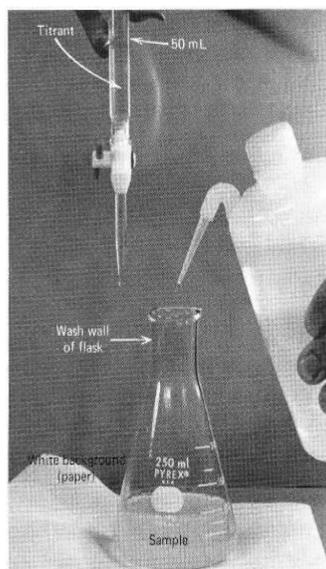
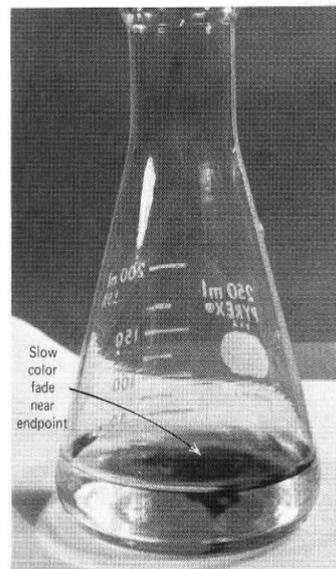

Figure T.16j Place a white background beneath the receiving flask and wash the wall of the receiving flask periodically during the titration.
Figure T.16k A slow color fade of the indicator occurs near the endpoint in the titration.
4. **Addition of Titrant to Receiving Flask.** Have a white background (a piece of white paper) beneath the receiving flask, generally an Erlenmeyer flask, so that you can better see the endpoint of a titration (the point at which the indicator turns color). If the endpoint is a change from colorless to white, a black background is preferred. Add the titrant to the Erlenmeyer flask as described above; periodically stop its addition and wash the wall of the flask with the solvent (generally deionized water) from a wash bottle (Figure T.16j). Near the endpoint (slower color fade of the indicator, Figure T.16k), slow the rate of titrant addition until a drop (or less) makes the color change of the indicator persist for 30 seconds. **Stop,**